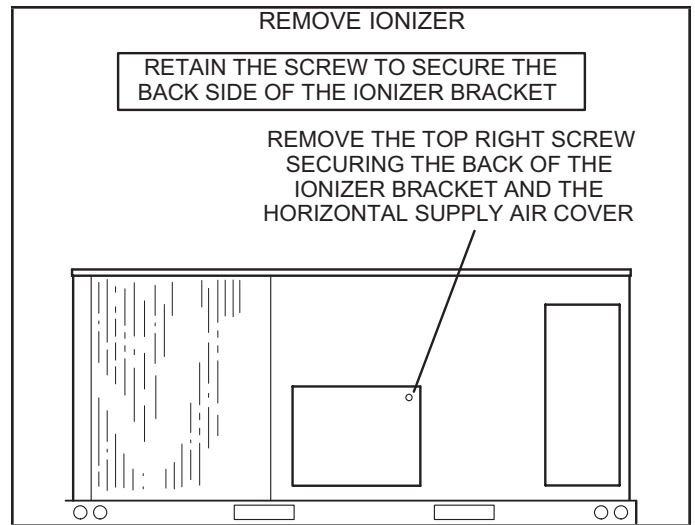

FIGURE 38
- 1 - On the back side of the unit, remove the screw securing the back of the ionizer bracket. See FIGURE 38. Retain the screw to secure the back side of the ionizer bracket.